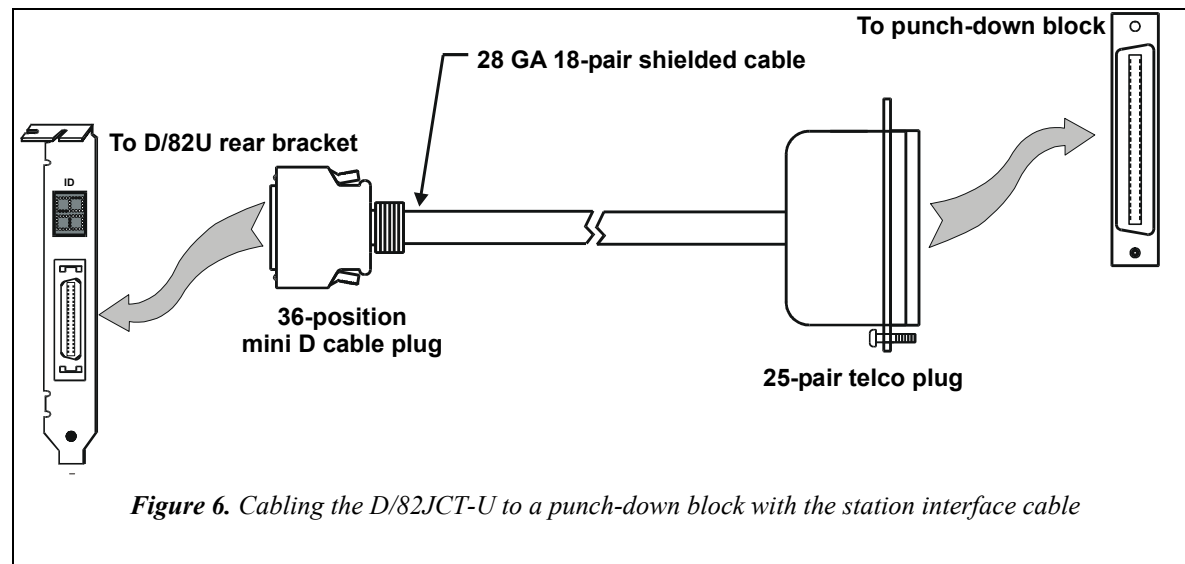

Figure 6. Cabling the D/82JCT-U to a punch-down block with the station interface cable
- A D/82JCT-U-specific, PBX station interface cable (available as a separate sales item, part # 06-0155-001) is used to connect the D/82JCT-U board to a punch-down block (see Figure 6).